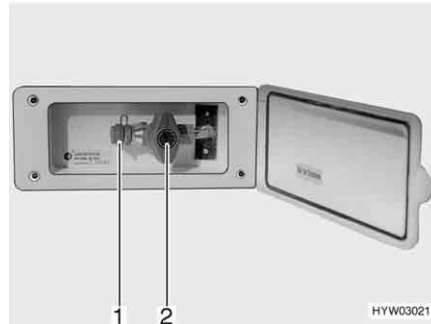

Fig. 109 External gas connection, gas isolator tap closed
The external gas connection (Fig. 109) is located at the rear or to the left or right of the vehicle depending on the model.
- Connect the external gas device to the connection point (Fig. 109,1).
- Open the gas isolator tap (Fig. 109,2).